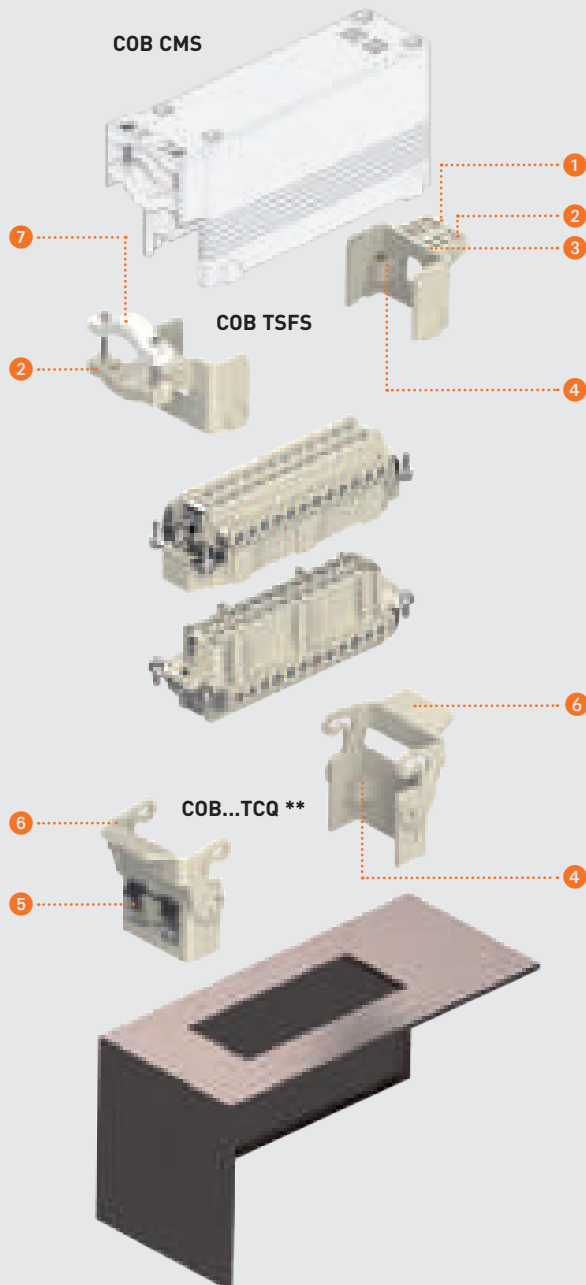

Figure 1
- > **On panels** with window snap fastening device (**Figure 1**).